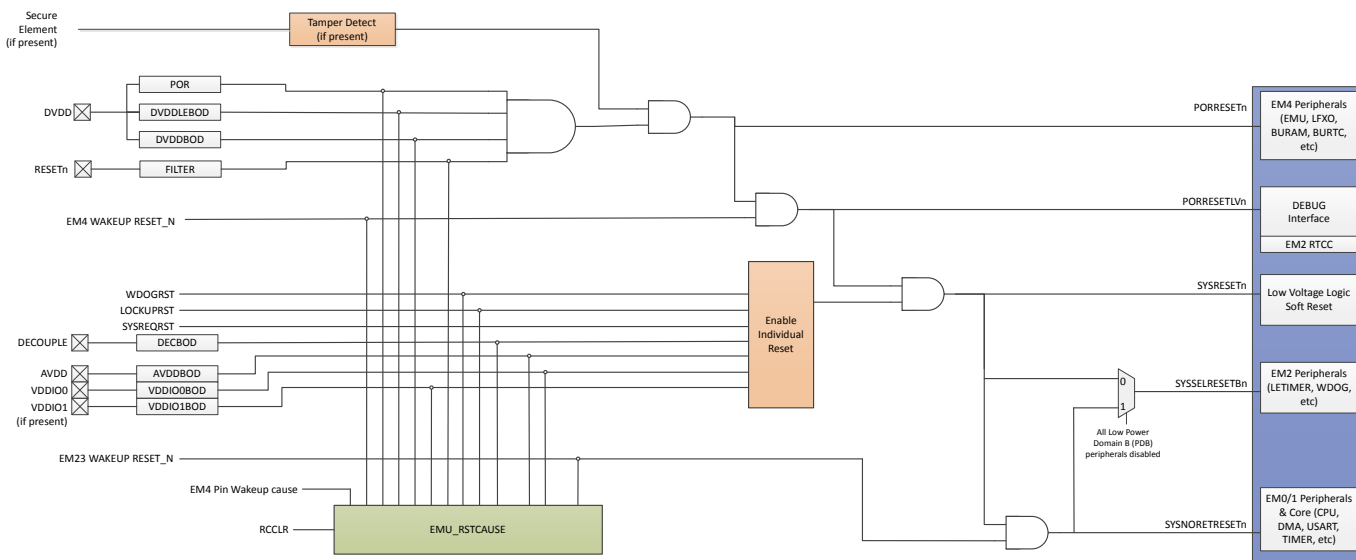

Figure 2.1. Reset Tree
- Moved Figure 2.1 Reset Tree on page 3 to 2. Reset Management Unit section.